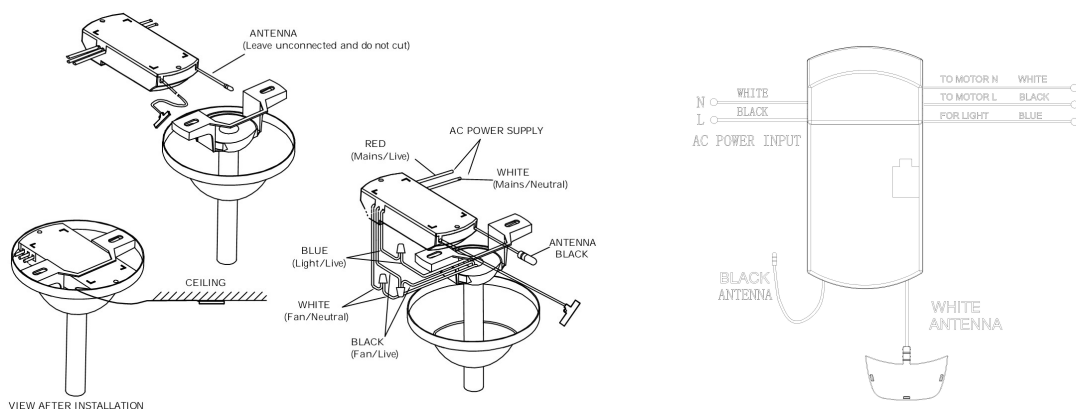

Fig. 1
3. For better remote performance with WiFi system, let T-shape antenna stuck on ceiling and outside of the steel canopy. (Fig. 1)